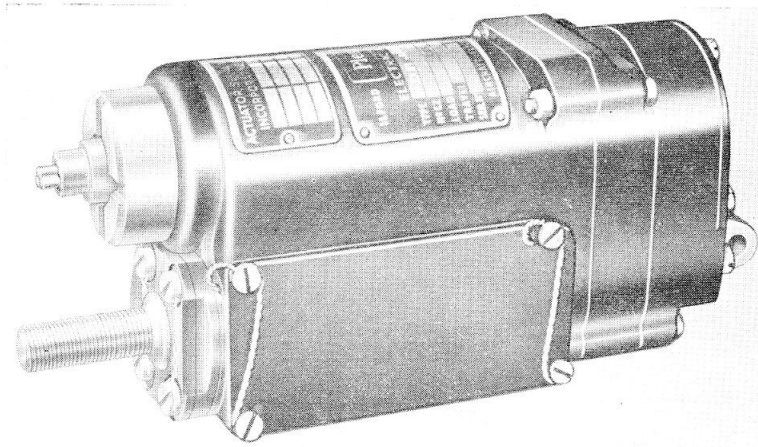
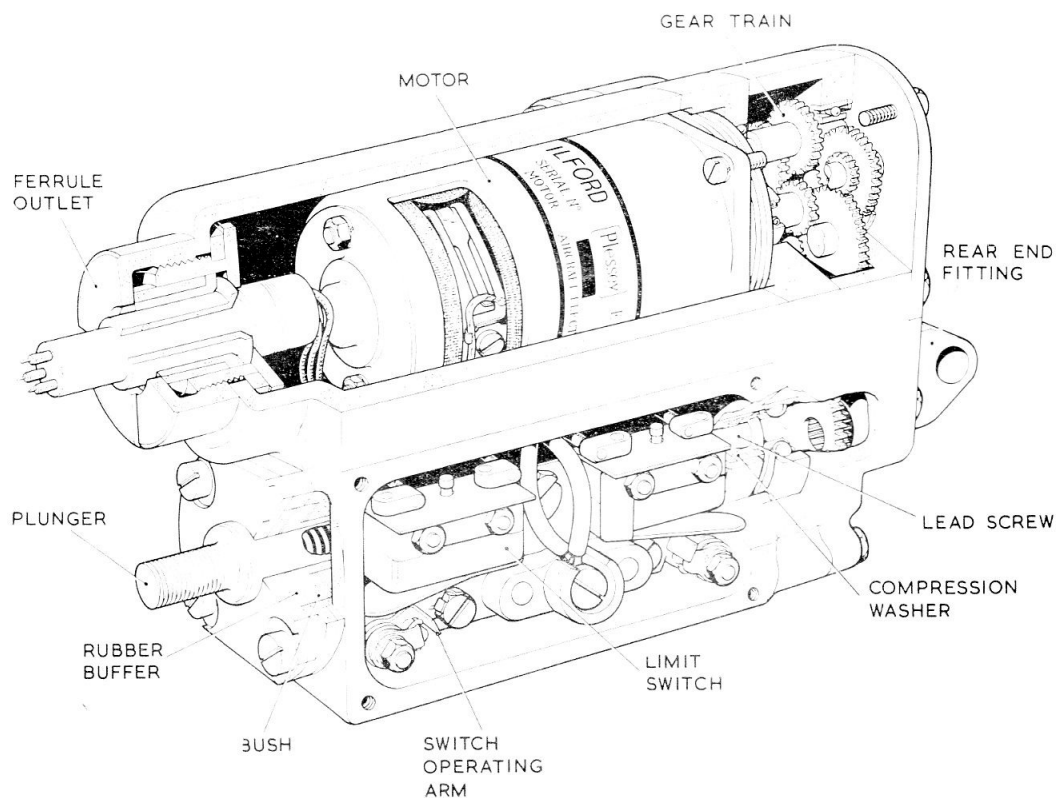

Fig. 1. General view of actuator
Fig. 2. Sectional view of actuator
2. A general view of the actuator is shown in fig. 1, and the Type ICZ 136410/2 is shown sectioned in fig. 2. The basic con-